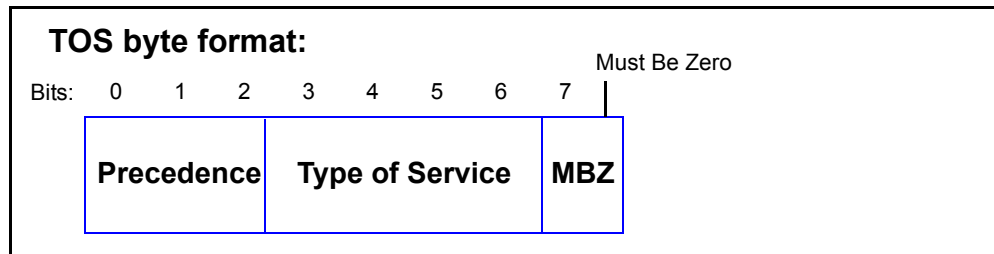
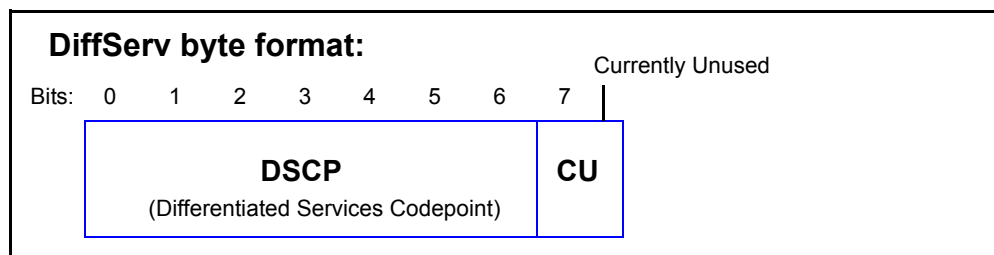

Figure 16-1. TOS Byte Format
Figure 16-2. DiffServ Byte Format
- The test can track up to 32,768 SmartFlows. The maximum number of flows allowed for the test is reduced depending on the number of bits used for the alternate key field that the test is tracking. The larger the size of the field that is tracked, the fewer the the number of flows and/or variations in non-cyclic flows are allowed. To increase the number of flows, consider disabling some flows for the test. See Figure 16-2 on page 389.
Both ToS (Figure 16-1) and DiffServ (Figure 16-2) use the same precedence byte in the IP protocol header: the first three bits, 0 to 2.